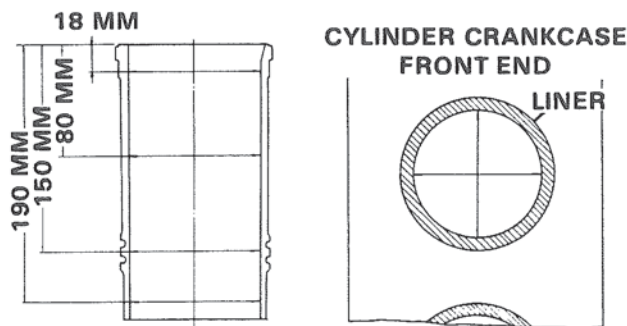

Figure 24. Where to Measure Liner.
2. Measure I.D. and write down readings. Measurements are made at four (4) points. Figure 24.